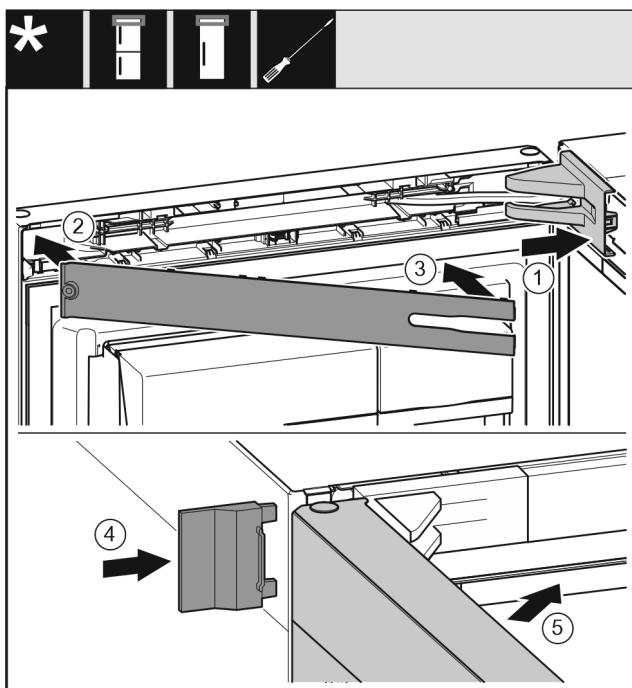

Fig. 22
- Position the bearing bracket cover and engage it. If necessary push it apart carefully. Fig. 22 (1)
- Place on the panel. Fig. 22 (2)
- Swing in the panel and latch it into place. Fig. 22 (3)
- Slide on the outer cover. Fig. 22 (4)
- Close the upper door. Fig. 22 (5)